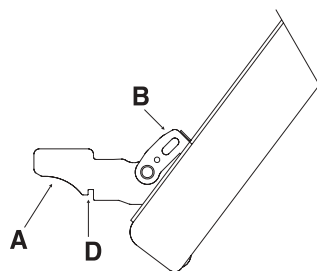

fig 4a
To make it easier to clean the inside of your oven, the oven door can be removed, by proceeding as follows (fig. 4a-4b):
- Open the door completely and lift the 2 levers "B" (fig. 4a);